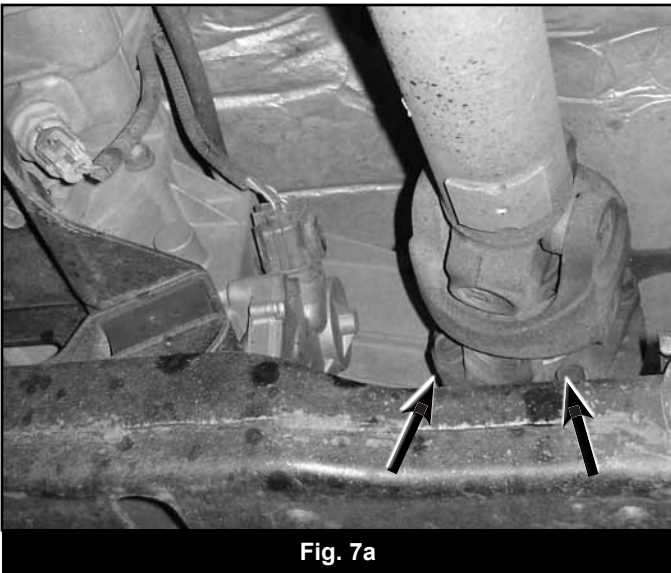

Fig. 7a
14. Remove the 4 bolts that attach the front driveshaft to the transfer case. (Fig 7a, 7b)
31. Remove the 4 bolts that attach the front driveshaft to the transfer case. (Fig 7a, 7b)